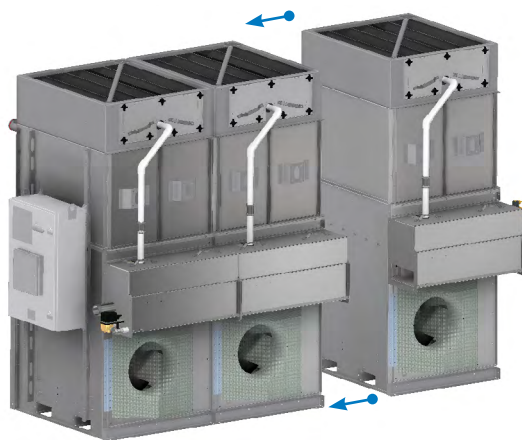

Figure 10a. Module to Module Assembly
2. Maneuver the second module and slide it towards the receiving module. See **Figure 10a**.